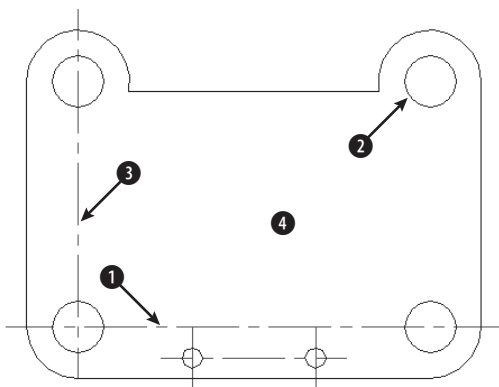

Figure 10-9: A tension arm for a commercial dryer
2. Save the file as `ab10-03.dwg` in your AutoCAD Bible folder. It looks like Figure 10-9. Set a running object snap for center and turn on OSNAP.
Select object to offset or <exit>: Pick ① in Figure 10-9.